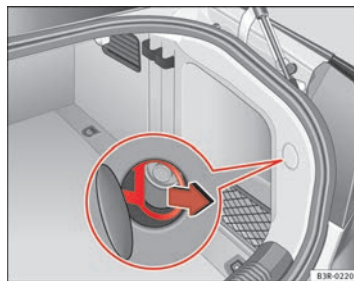

Fig. 166 Luggage compartment: Releasing the fuel tank flap by hand in case of emergency
- Pull the ring to unlock the fuel tank flap ⇒ fig. 166. ■